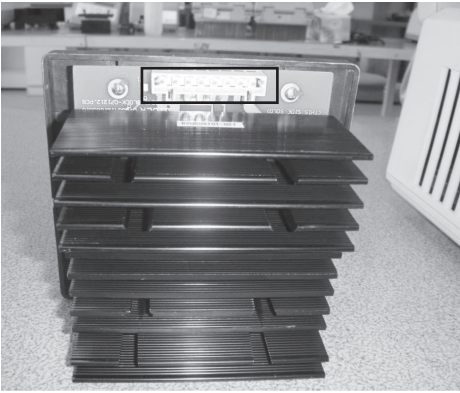

Fig.22
2.5.3 Take out the block as Fig. 22.